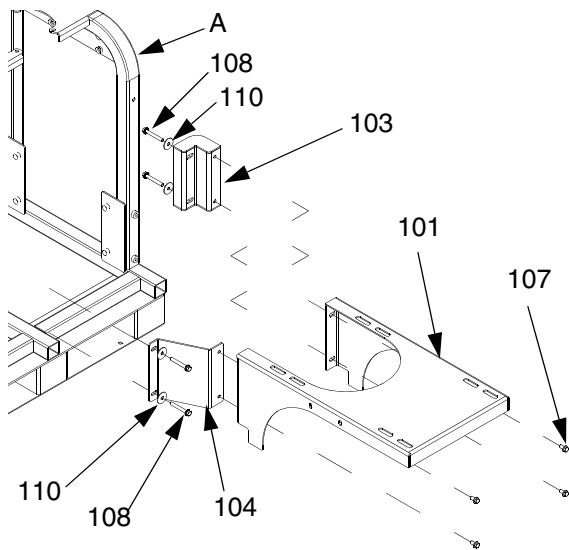

FIG. 6: Back of Frame
- b. Repeat for second hopper (D) on opposite side of frame (A).
2. Mount hoppers (D) on back of the frame (A). See FIG. 6.